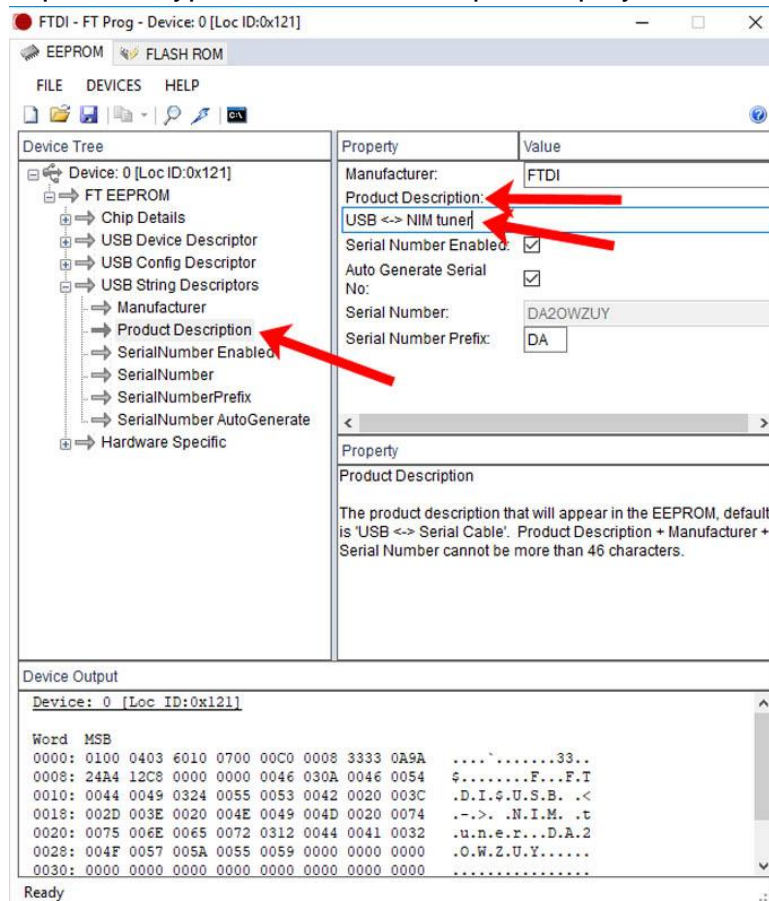

Fig 23 - If FT_Prog “USB STRING DESCRIPTORS” shows product as “USB <-> NIM tuner”, then EEPROM needs to be reprogrammed for this product field.
5. Click on **USB String Descriptors**. **Figure 23** shows the “old Product ID string” that would need to be updated. That enables the Product Description edit box. In the box, change name from “USB <-> NIM Tuner” to “MiniTiouner-Express”. The string is case sensitive. Type as shown, but not the quotation marks.